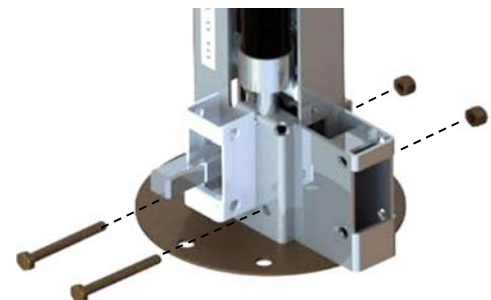

Figure 46
- 6) Use the two 1/4"-20 x 2 1/4" hexagonal bolts, the nylon-insert lock nuts with the appropriate socket wrench spanner to fasten the assembly. **To prevent the mechanism from bending inward, do not overtighten these bolts. Make sure you respect the orientation of the fasteners, as shown.** (Figure 46)